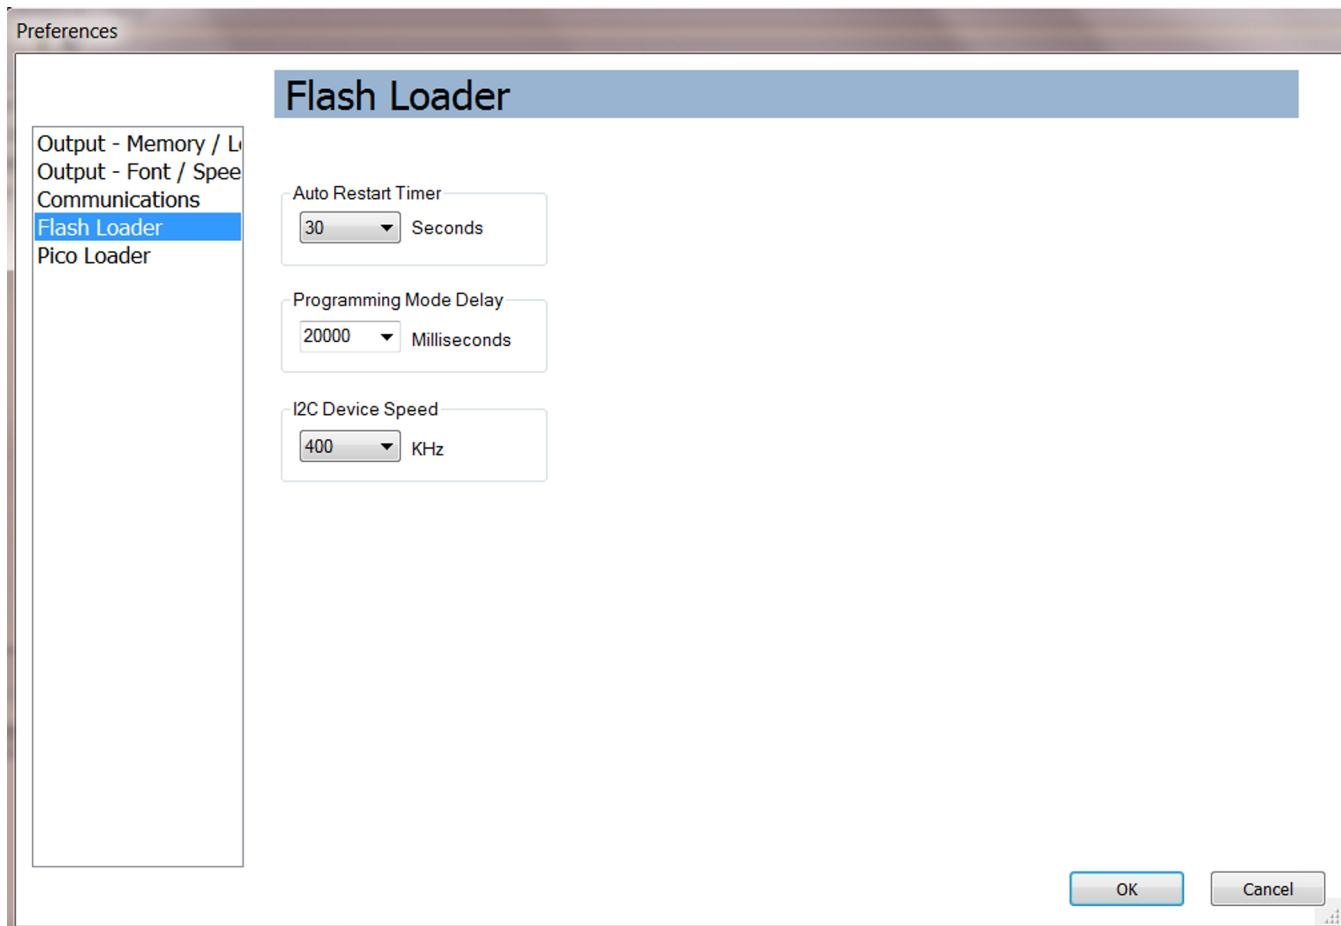

図 10. Flash Loader Options
1. In the menu bar of the DLP Composer GUI, navigate to *Edit* → *Preferences* → *Flash Loader* as 図 10 shows.